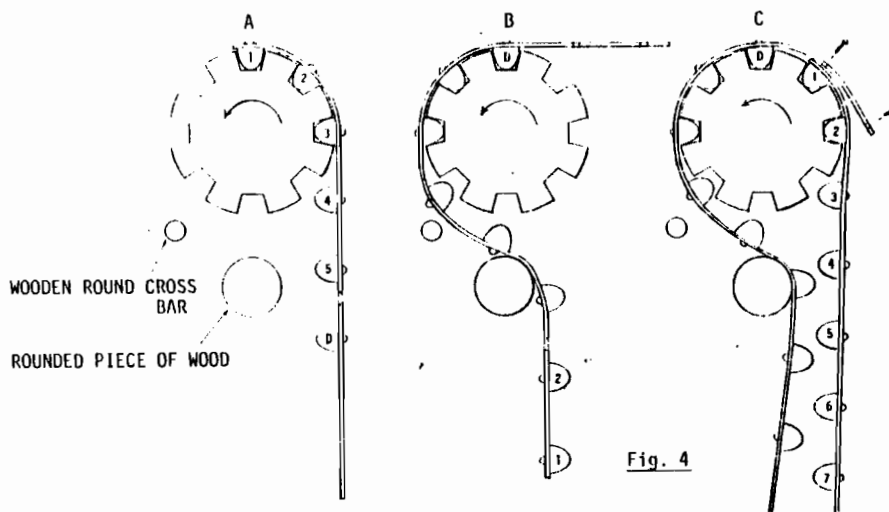

Fig. 4
Place the chain on the Dobby by placing the first cross bar on the notch of the Dobby roller (cylinder). Figure 4 (A). Then rotate the roller by hand to roll the chain onto the Dobby, then between the roller and the wooden round cross bar, and then between the roller and the rounded piece of wood. Figure 4 (B). When the last bar is on top of the roller, place the other end of the chain on the roller on the empty notch next to the first end already on the roller. Figure 4 (C). Remove the screws from the first two cross bars on one strap, overlap the strap and refasten the two screws thus holding the two ends of the strap onto the two cross bars. Repeat this operation for the other side. To remove the chain, just unscrew those two cross bars.
3. If you have removed the selection chain from the Dobby, put it back onto the Dobby as explained in Fig. 4.